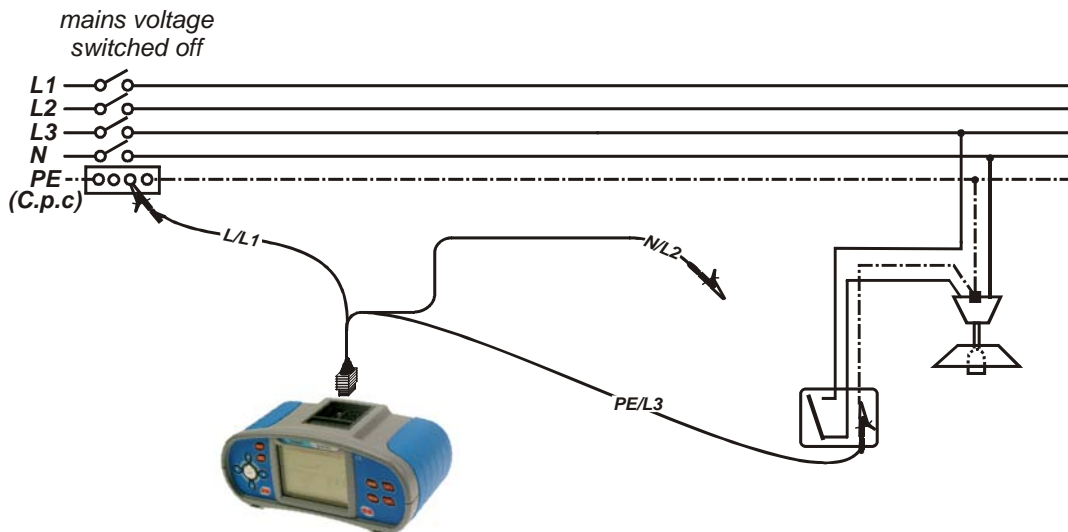

Figure 5.14: Measurement resistance of PE (C.p.c) connection (R2)
- ❑ **Connect** test cable to the tested wiring (see figure 5.14).